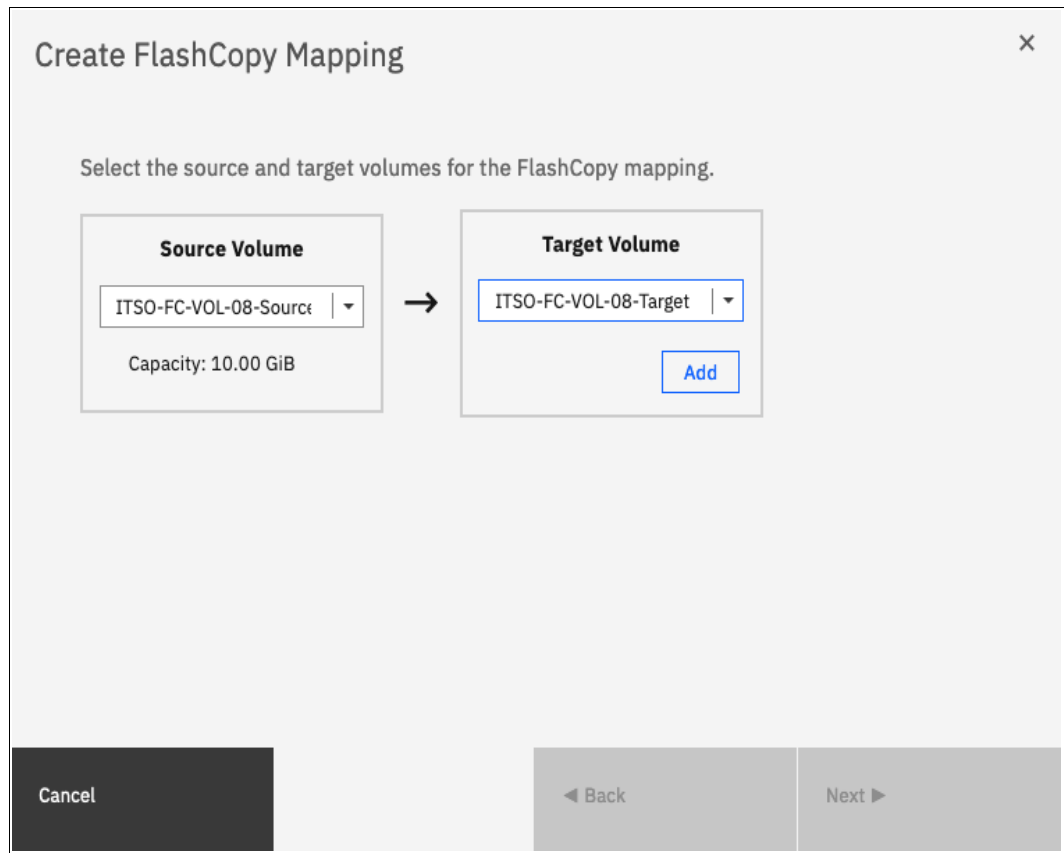

Figure 10-41 Selecting source and target volumes for the FlashCopy mapping
3. Select a volume in the source volume column by using the drop-down menu. Then, select a volume in the target volume column by using the drop-down menu. Click **Add**, as shown in Figure 10-41.